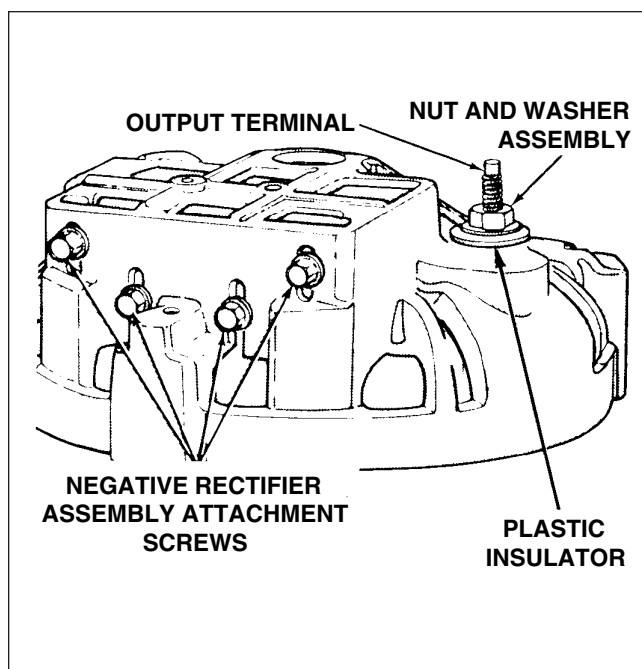

Figure 24-24. Chrysler Alternators Rectifier and Heatsink Assembly Removal
8. Removal Of Chrysler Alternator Rectifier And Heatsink Assembly (Refer to figure 24-24.)